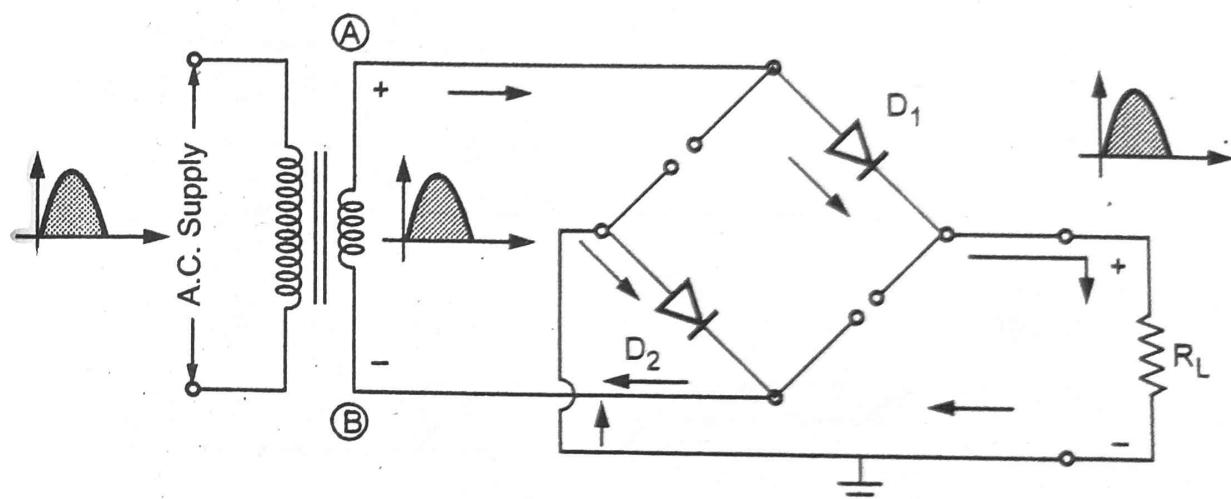

Fig. Q.27.2 Current flow during positive half cycle
- Consider the positive half of ac input voltage. The point A of secondary becomes positive. The diodes D_1 and D_2 will be forward biased, while D_3 and D_4 reverse biased. The two diodes D_1 and D_2 conduct in series with the load and the current flows as shown in Fig. Q.27.2.